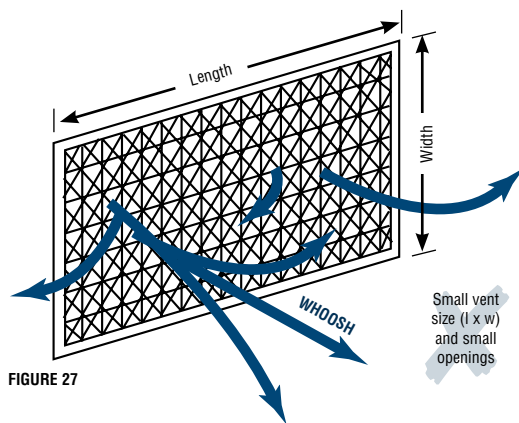

FIGURE 27
- Are you hearing an annoying whooshing sound from your air outlet vents? This is usually the result of openings that are too small and/or tight grillwork (such as perforated metal) that restricts the airflow (figure 27).